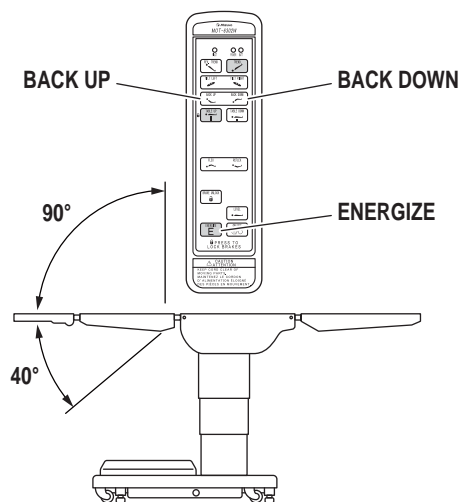

Figure 2-10. Back Section Positioning
**d. Back Section** To raise the back section, press the ENERGIZE button and then the BACK UP button (figure 2-10). The back section will raise up to 90° above horizontal. To lower the back section, press the ENERGIZE button and then the BACK DOWN button. The back section will go down to 40° below horizontal.